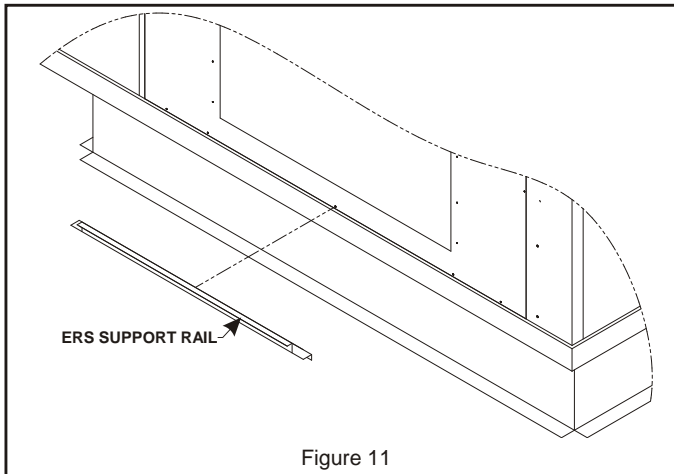

Figure 11
- Position ERS support rail with notched flange pointing away from rooftop unit. Center ERS support rail by using the center hole of rail and aligning it with the center hole in the base pan of the return opening. Use (5) of the 14-16 x 3/4" screws provided to secure rail to base of unit. Apply 3/4" x 1 1/4" gasket along face of the ERS support rail. **See Figure 11.**